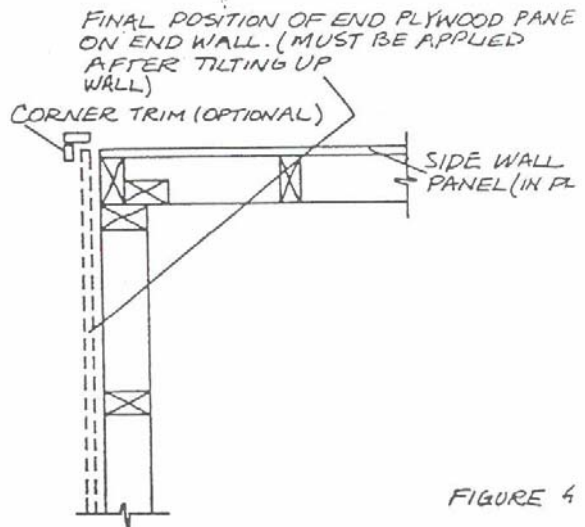

FIGURE 4
7. When both side walls are completed and in place, apply siding to shorter end walls. Place one panel at the end of each wall and temporarily tack it into position. Allow for overlap of sidewall framing and siding. See Figure 4 for help in figuring the overlap (normally about 3 1/2 in. plus panel thickness). It is usually easier to use corner trim pieces than to try to trim edges to perfect fit. Permanently fasten all remaining panels to wall framing; do not apply panel at the other end of the wall. Remove temporarily fastened panel from wall. The open framing at either end of the walls facilitates tilt-up and attachment to side walls. See Figure 4.
10. Apply battens and trim strips as desired for appearance, or as shown on plans. Lap corner trim strip over siding joint as shown in Figure 4, so that there is no continuous joint through corner trim and siding. Where siding is applied with face grain across the studs, apply battens to conceal the vertical butt joints at panel ends. Block behind horizontal joint. Nails through battens must penetrate the studs at least 1 inch.